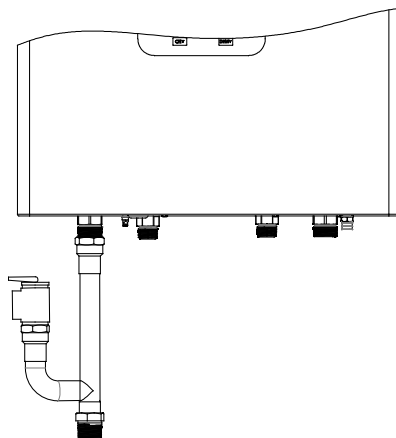

Figure 6.1: Pressure Relief Assembly
**Pressure Relief Assembly** – A pipe assembly with a pressure relief valve. This fixture requires a 3" clearance radius from the gas and piping system. Must be installed on CH RETURN fitting. (See Fig. 6.1). Supplied with C95.